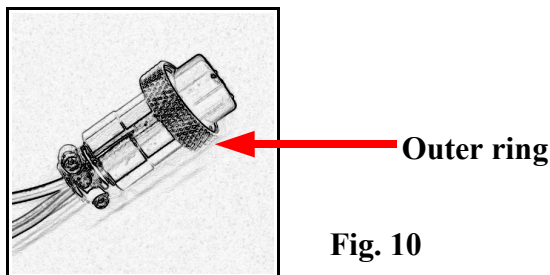

Fig. 10
- (e) Secure the remote connector plug to the terminal socket by locking connector ring(Fig 10).